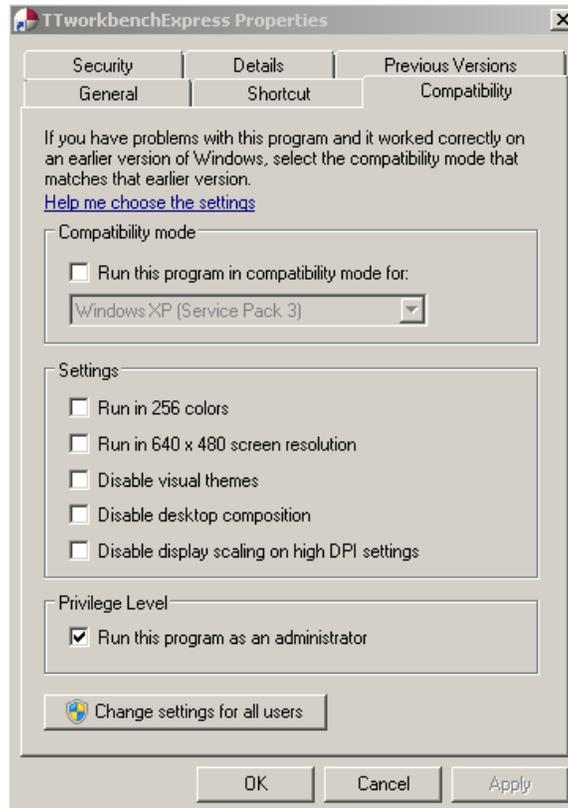

Figure 6-9: TtworkbenchExpress Properties – Compatibility Tab
2. Under the *Compatibility* tab shown in Figure 6-9, enable the **Run this program as an administrator** option.